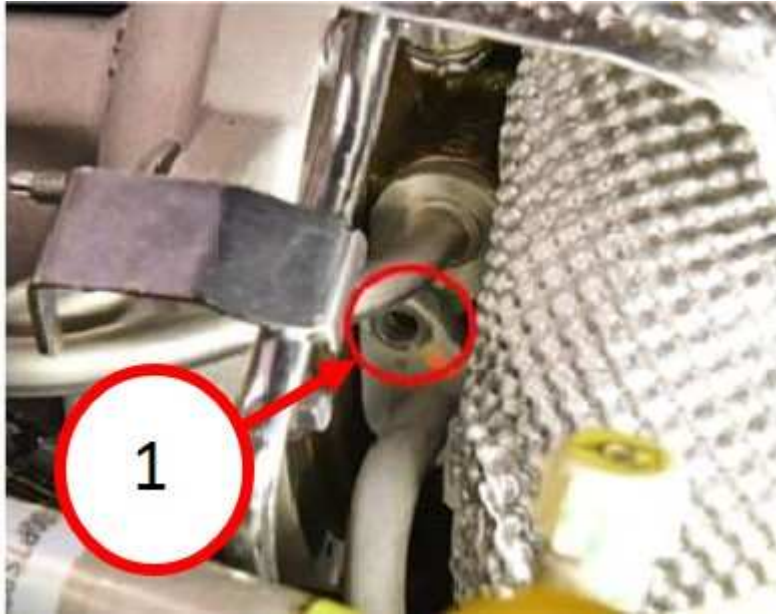

Fig. 1
1. Remove the coolant hose from the turbocharger (Fig. 1) . Refer to the detailed service procedures available in DealerCONNECT> TechCONNECT under: 09 - Engine, 2.0L/ Turbocharger System/Lines, Tubes and Hoses, Turbocharger, Oil and Coolant/Removal.